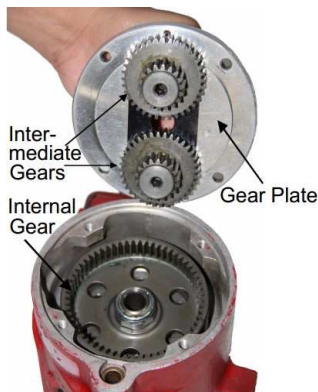

Figure 17 -Removing Gear Plate and Intermediate Gears
2. Take out four socket head screws securing gear plate to frame and lift off plate and intermediate gears as a unit (Figure 17). Do not remove the two socket head screws from flange around brake wheel bearing hole (Figure 16) unless it is necessary to replace intermediate gear.
4. Rotate internal gear (Figure 17) to make the holes in web align with six socket head screws